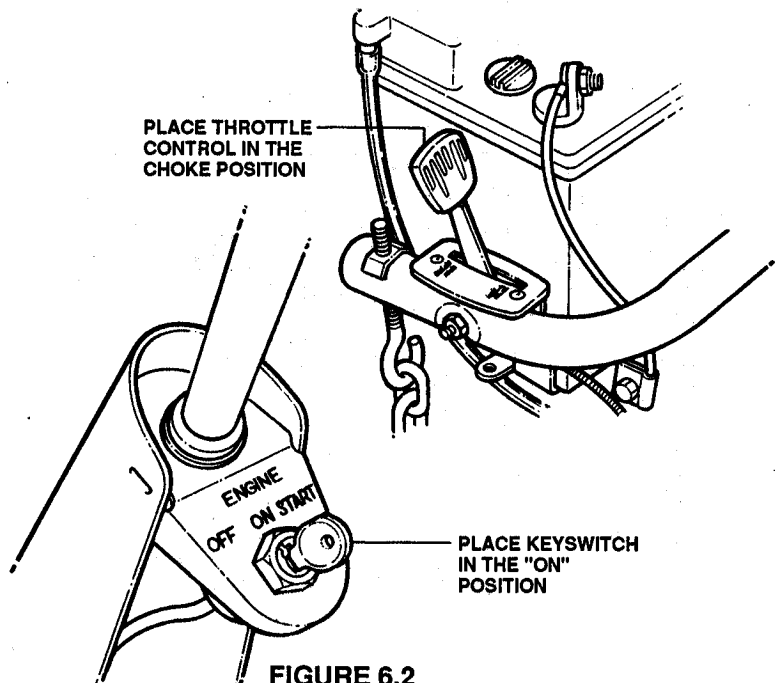

FIGURE 6.2
- A. Be certain ignition switch is in the "ON" (START) position and the throttle control is in the START position. See Figure 6.2